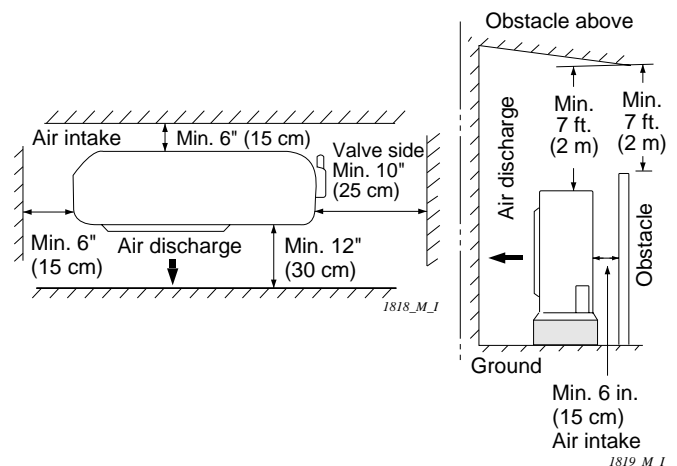

Fig. 4
- allow enough room around the unit for air intake/exhaust and possible maintenance. (Fig. 4)